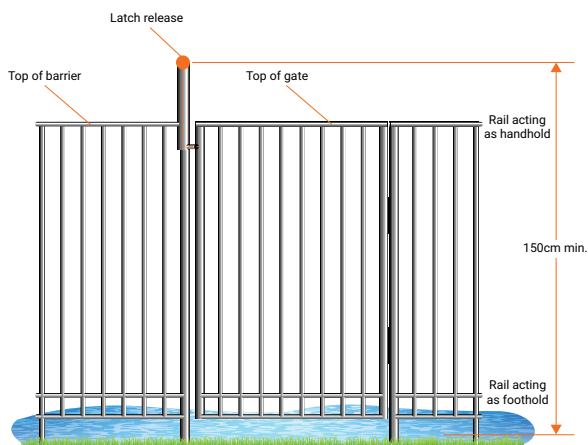

Figure 1 – Gate latch release mechanism at least 1.5 metres above the ground.
e. Is the latch mechanism either: <ul style="list-style-type: none">• at least 1.5 metres above the ground (see Figure 1); or• located on the inside of the gate, at least 15cm below the top of the gate and shielded so no opening greater than 1cm occurs between the top of the gate and a radius of 45cm from the latch? (see Figure 2).	<input type="checkbox"/>
d. Is there at least 90cm between handholds and footholds? (see Figure 1)	<input type="checkbox"/>